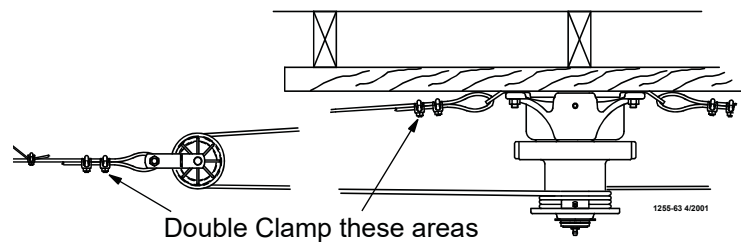

Figure 13. Double back arrangement, feed lines over 350' [107 m]
1. Extend the 3/16" [5 mm] main winch cable the full length of the feeder line. Attach the cable temporarily to the ceiling with nails, staples, or some type of fastener. **Figure 13.** shows a double back arrangement for feed lines over 350' [107 m].